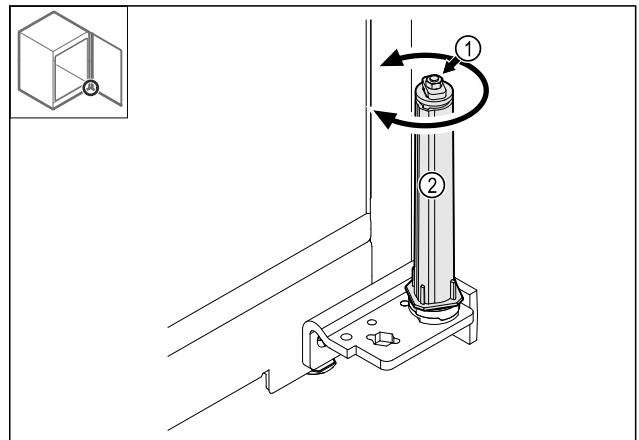

Fig. 40
- ▶ Do not disassemble the screw connection Fig. 40 (1) of the closing system.
- ▶ Turn the closing system Fig. 40 (2) until it clicks.